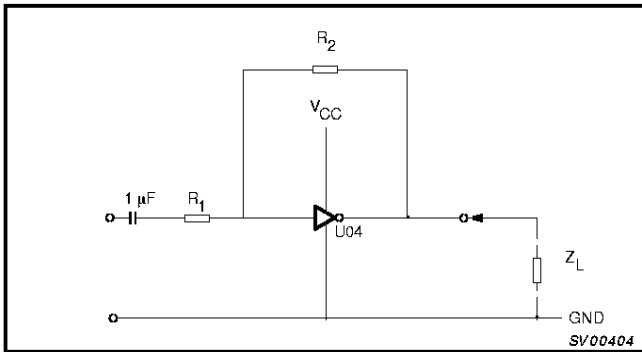

Figure 7. LVU04 used as a linear amplifier.
- Linear amplifier (see Figure 7)
Note to Figure 7